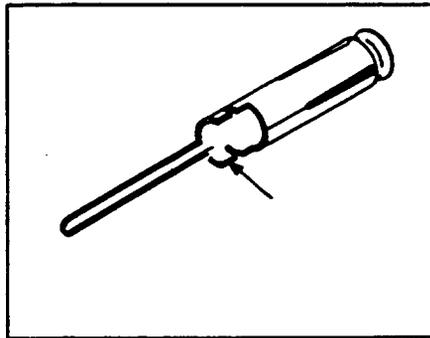

Figure 17. Tip or Ring Terminal
4.11 To remove the 842360976 connector panel tip or ring terminal (Figure 17), proceed as follows:
8.02 The 843826447 cross-connect Figure 8 and test terminals (Figure 8) cannot be easily replaced. In addition, repair of broken or damaged wire conductors leading from the swivel type metal coupling to the 842360976 tip or ring terminal (Figure 17) must comply with special requirements to protect the integrity of the UL Listed design. If it is necessary to perform either of these operations, contact your local AT&T Account Executive for assistance.